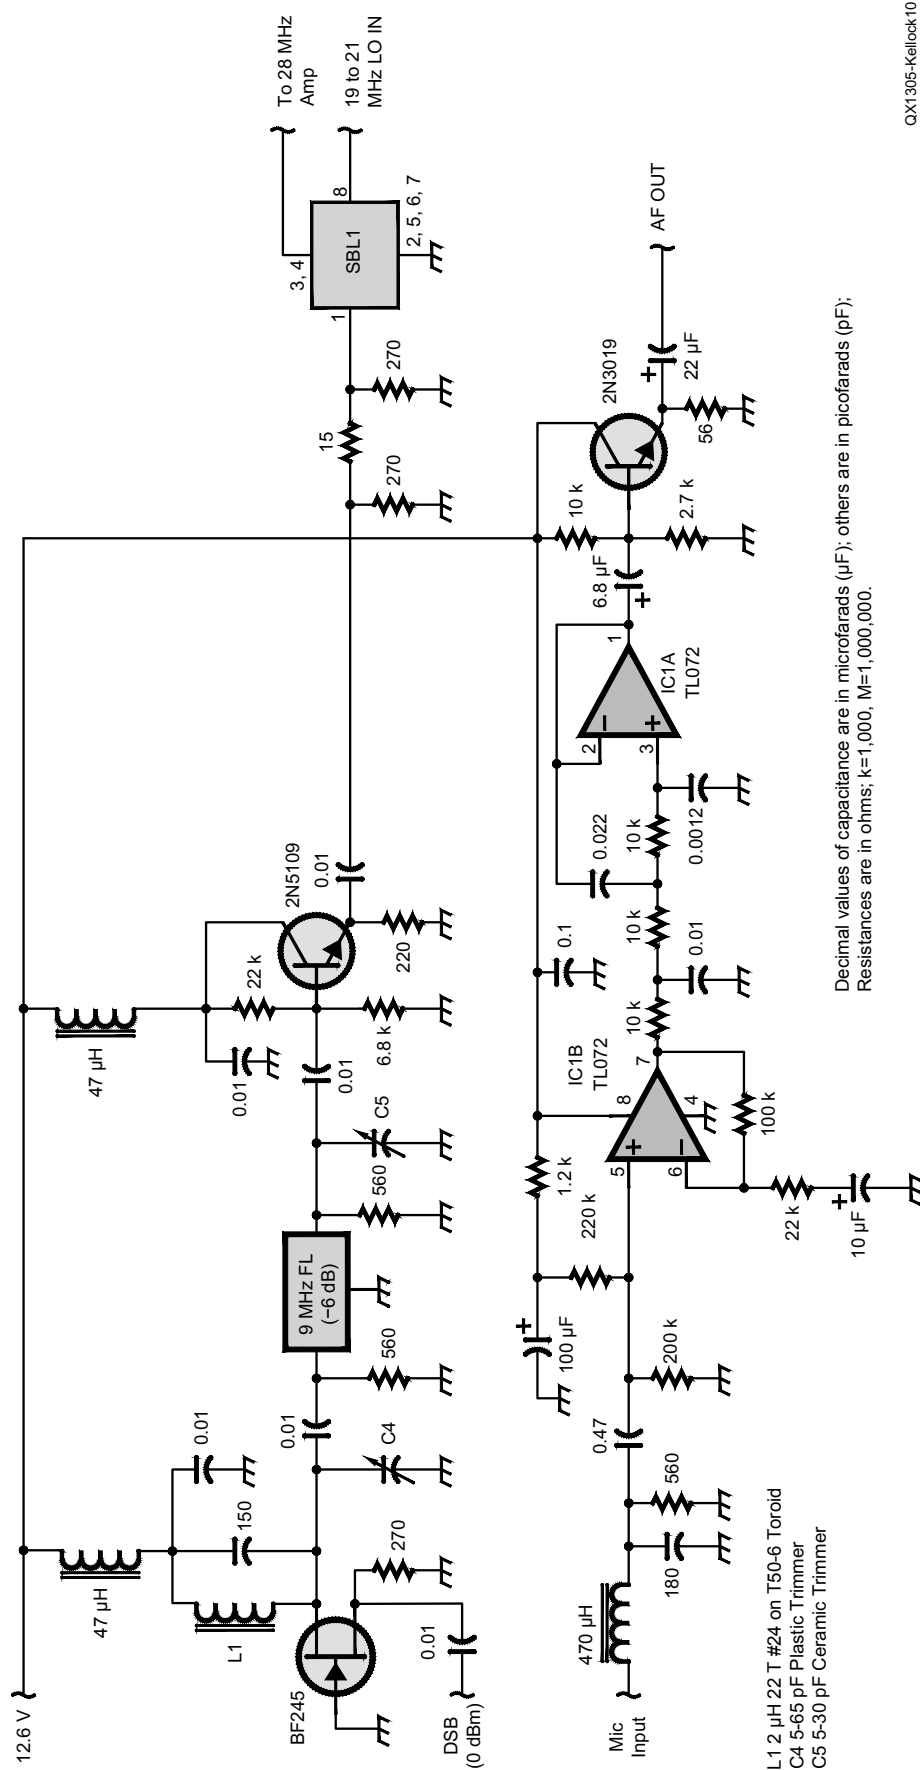

Figure 10 — The DSB/SSB filter and second mixer, along with the audio amplifier. The microphone input comes from the level control in Figure 8.
**Figure 8 — Microphone pre-amp, audio clipping and local/remote switching for audio selection.** P pads 1, 2 and 3, 4 and 5, 6 are used to place wire bridges, allowing a single sided circuit board. The microphone is connected to X1-4 and 12 V power to X1-1. Gain control (a 10 or 20 k $\Omega$  potentiometer) is connected to X2-1, X2-2 and X2-3. A second 10 k $\Omega$  potentiometer (for level adjustment) is connected to X2-5 and X2-3; the wiper is connected to the microphone input on the SSB generator in Figure 10.